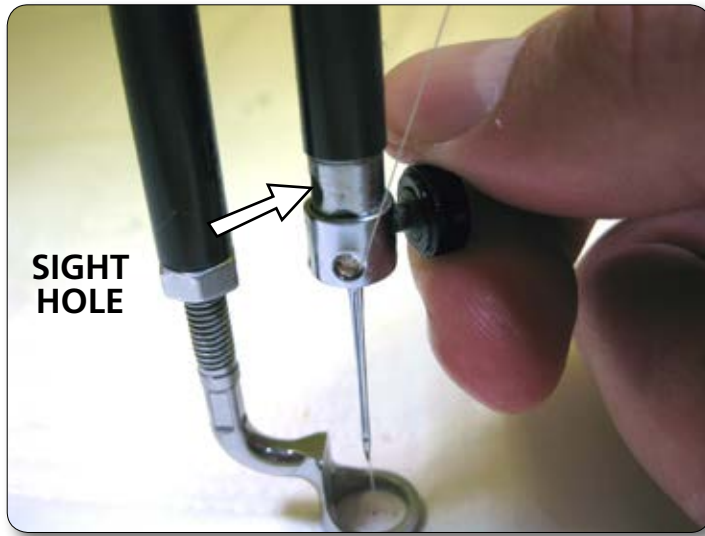

Figure 7
3. Loosen the needle-bar clamp thumb screw (see Figure 7) enough to assure that the needle can be inserted all the way up to the top of the sight hole.
4. With the scarf (small ground out section/dip on the back side of the needle just above the needle eye) facing the hand wheel end of the machine, and the long groove down the front of the needle facing the bobbin case side (see Figure 7), push the needle all the way up into the needle bar – until it can go no further. Look into the sight hole to verify that the butt of the needle reaches the top of the sight hole.